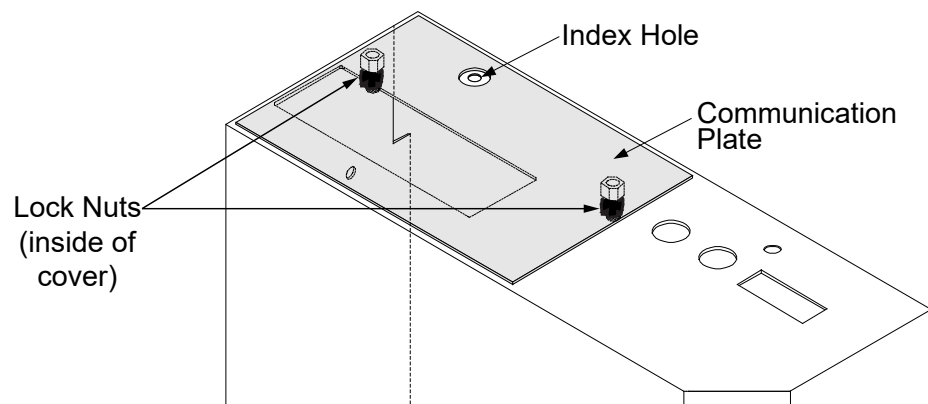

Figure 8-6 M-6200A Control Rear Cover, Communication Plate Orientation
1. Remove and discard the two lock nuts (Figure 8-6) from the inside of the rear cover; then remove the communication plate.
2. Install the appropriate communication plate onto the top panel of the rear cover, ensuring that the index hole (Figure 8-6) is exposed.
3. Install the kit's lock nuts onto the communication plate's captive screws to secure the rear cover (Figure 8-6).